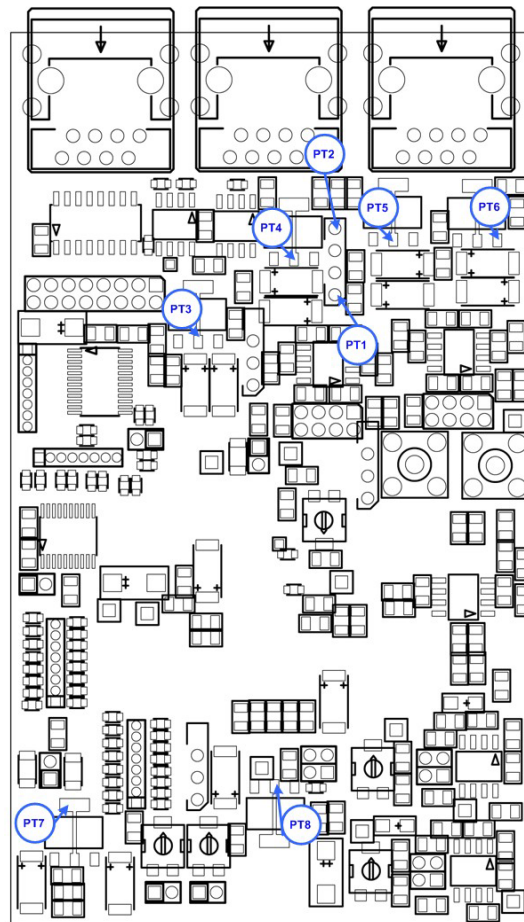

Figure 2.6: The test points for power supplies.
- Measure the voltages of the test points (P1...PT8) shown in Fig. 2.6. The voltage values are listed in Table 2.4.